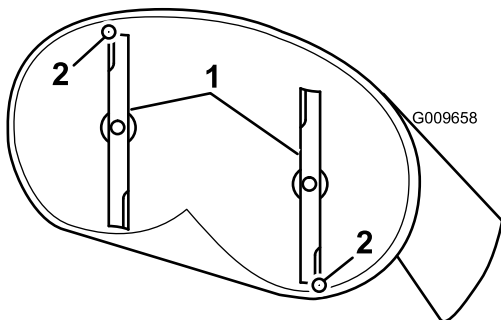

Figure 51
4. Carefully rotate the blades so they are facing front to rear (Figure 51).
5. Measure from the tip of the front blade to the flat surface, and the tip of the rear blade to the flat surface (Figure 51).
9. After adjustment, check the front-to-rear slope again, continue adjusting the nut until the front blade tip is 1.6 to 7.9 mm (1/16 to 5/16 inch) lower than the rear blade tip (Figure 51).